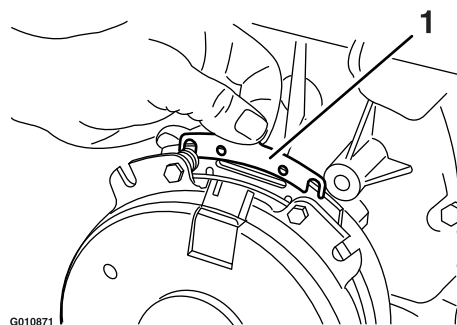

Figure 81
- B. Using needle-nose pliers, or by hand, hold the tab and remove the shim (Figure 81).
Remove any buildup of grass, dirt, or other debris from the engine screen. This helps ensure adequate cooling and correct engine speed and reduces the possibility of overheating and mechanical damage to the engine (Figure 81).